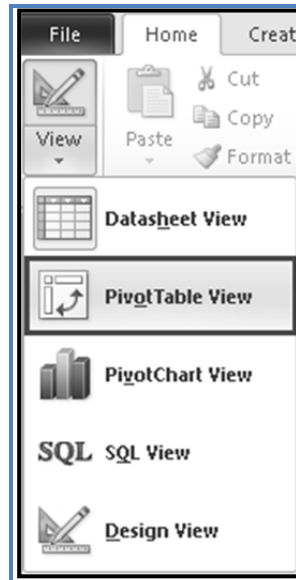

Fig. 1.2.56: Select PivotTable View
1. Open the query in **PivotTable View** by clicking **PivotTable View** from **Home -> Views**, as displayed in Fig. 1.2.56.